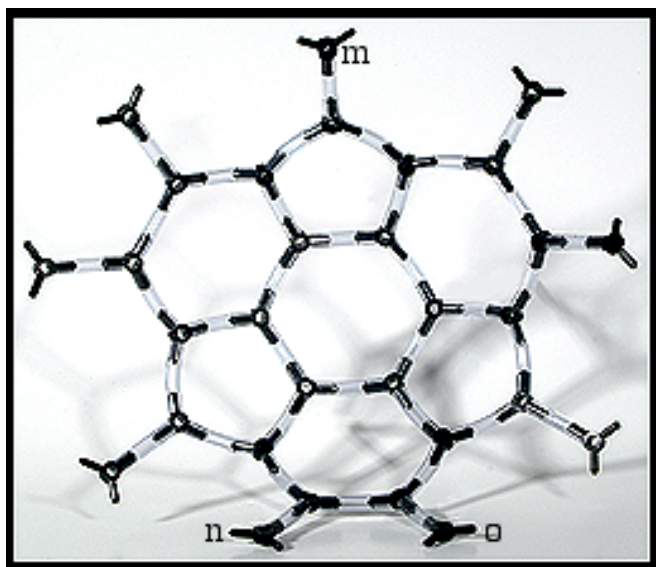
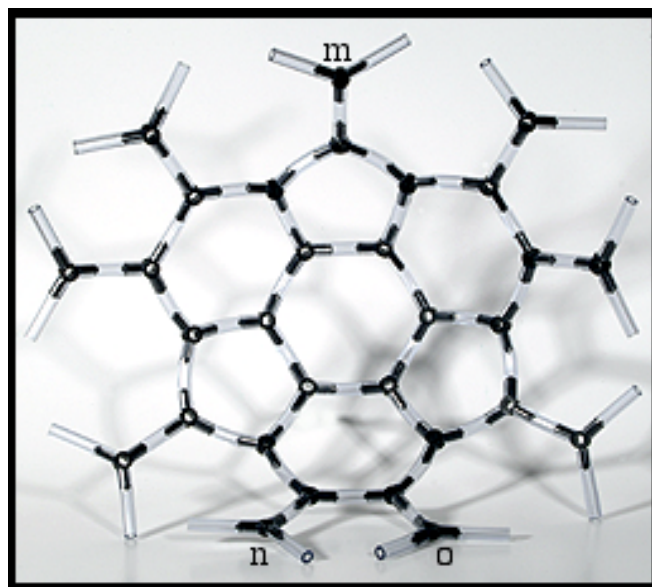
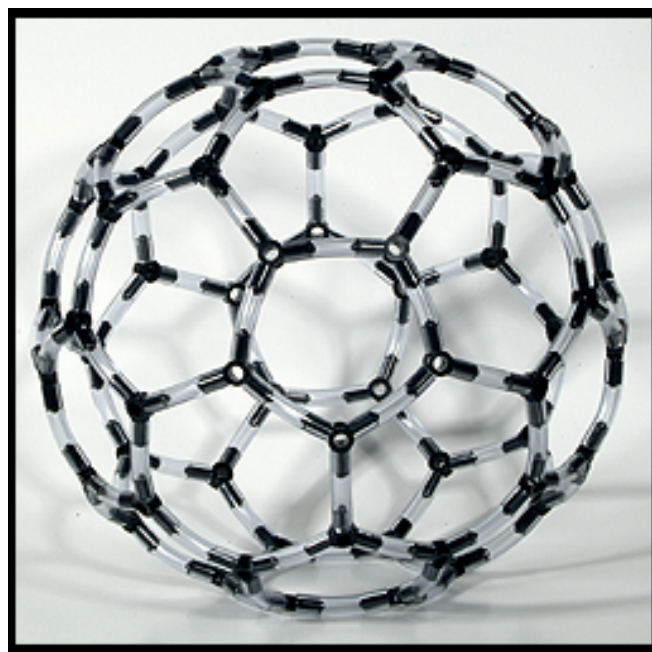

Fig. 4 Attaching nine tubes and atoms
Fig. 5 One half Buckyball
Fig. 6 Completed Buckyball
4. Using nine tubes, connect one atom center to each of the unattached pegs. (Fig. 4)
5. Repeat steps 1-4 so that you have two copies of Figure 4.
6. Attach bonds to all of the unattached pegs of one of the copies of Figure 4. See Fig. 5.
7. Attach atom m of one copy of Figure 4 to atoms n and o of the other copy of Figure 4. Connect the rest of the atoms around the edge to form the complete buckyball. See Fig. 6.